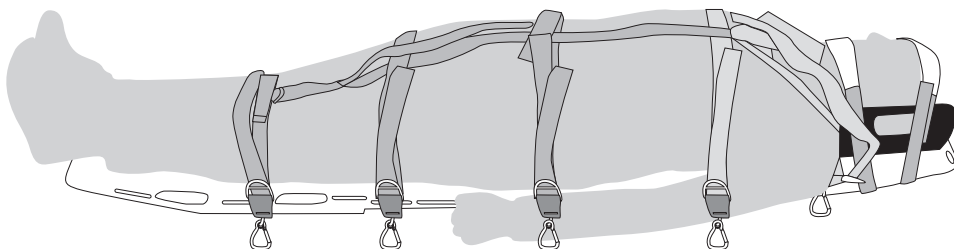

Fig.8
- b) Position the “TAYLAN” belt as shown in figure 8,